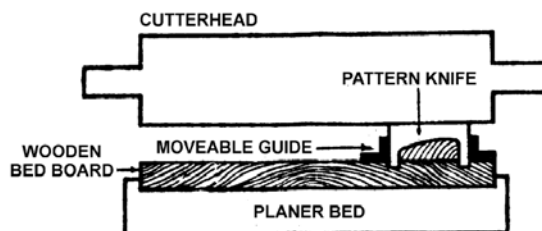

Figure 34
2. Loosely adjust the guides to the board. Rotate the cutterhead by hand and see if the pattern knife will line up with the board. Adjust accordingly until the pattern knife and board are lined up as in Figure 34.